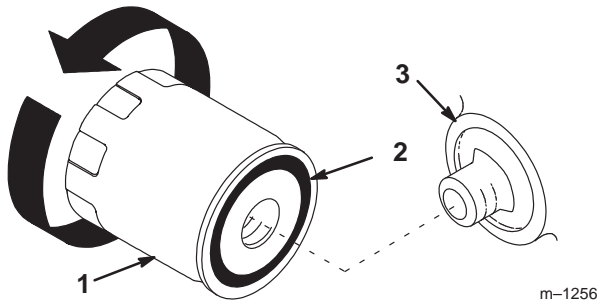

Figure 18
- Remove the old filter and wipe the filter adapter (Fig. 18) gasket surface.
- Apply a thin coat of clean oil to the rubber gasket on the replacement filter (Fig. 18).
- Install the replacement oil filter to the filter adapter. Turn the oil filter clockwise until the rubber gasket contacts the filter adapter, then tighten the filter an additional 2/3 to 1 turn (Fig. 18).